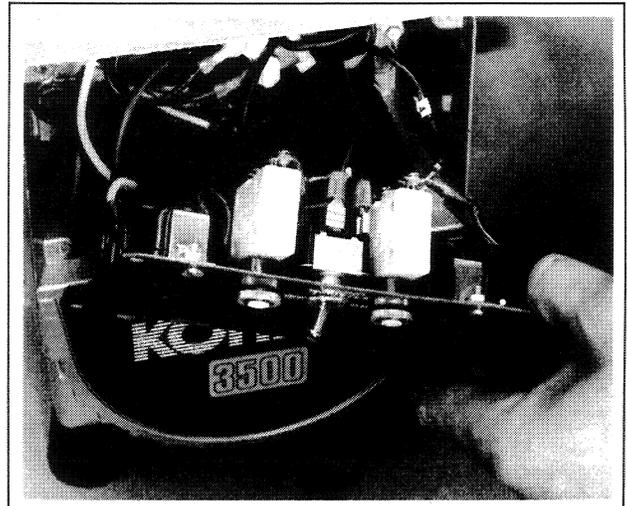

Figure 2-13. Removing Power Panel
4. Unscrew power panel, Figure 2-13. Disconnect all leads running to power panel. Remove power panel.